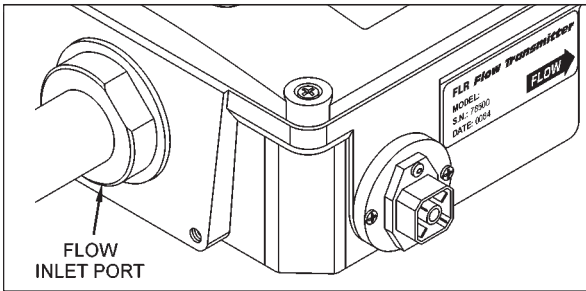

Figure 5. Flow Direction Arrow
**DO** - Ensure the fluid is traveling in the direction of the flow arrow (Figure 5 on page 6).
4. Mount the transmitter so fluid is traveling in the direction of the flow arrow. See Figure 5.